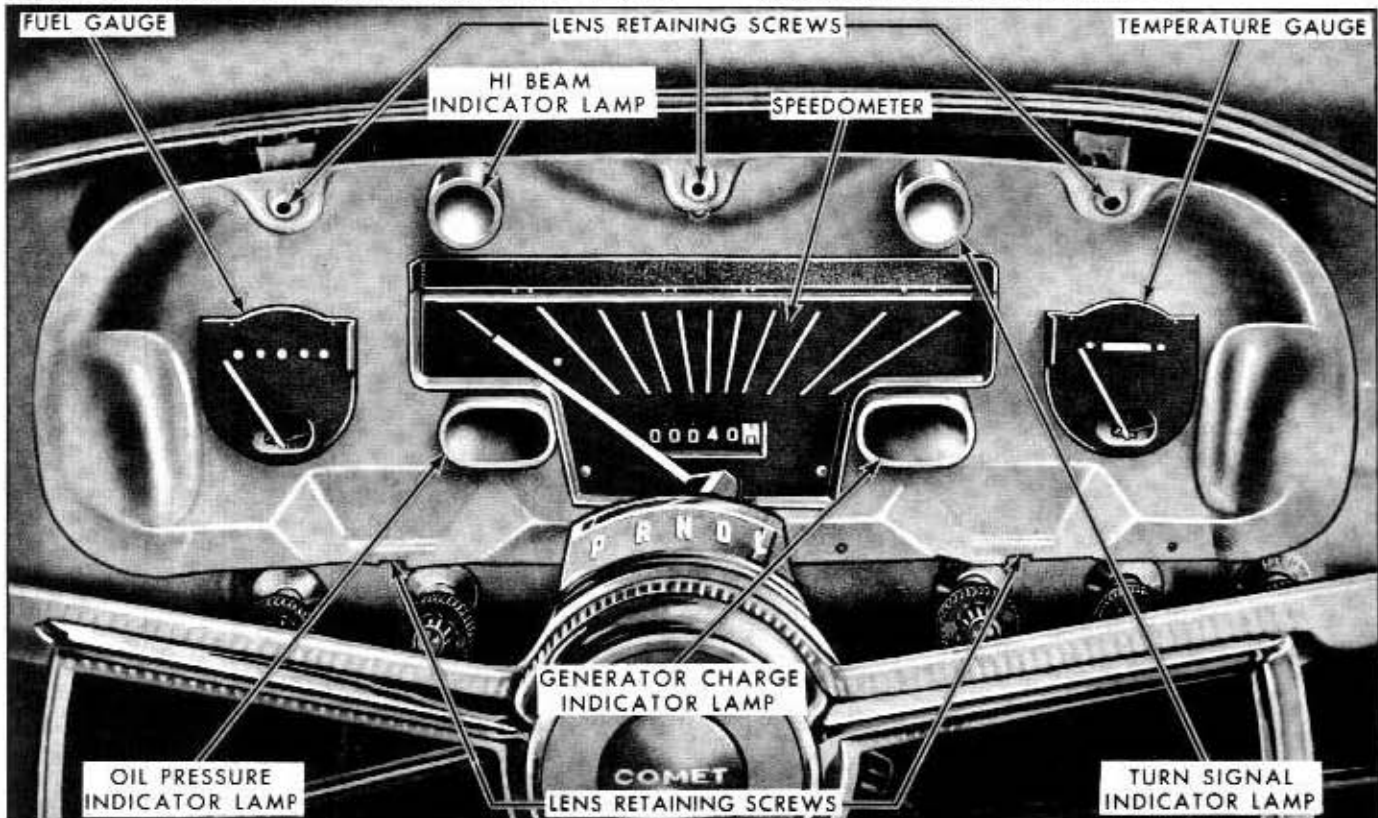

Fig. 11-5—Instrument Cluster—(60C-7639)
2. Remove the instrument cluster bezel retaining screws and lift the bezel, lens, and cluster mask plate from the cluster housing. See figure 11-5.